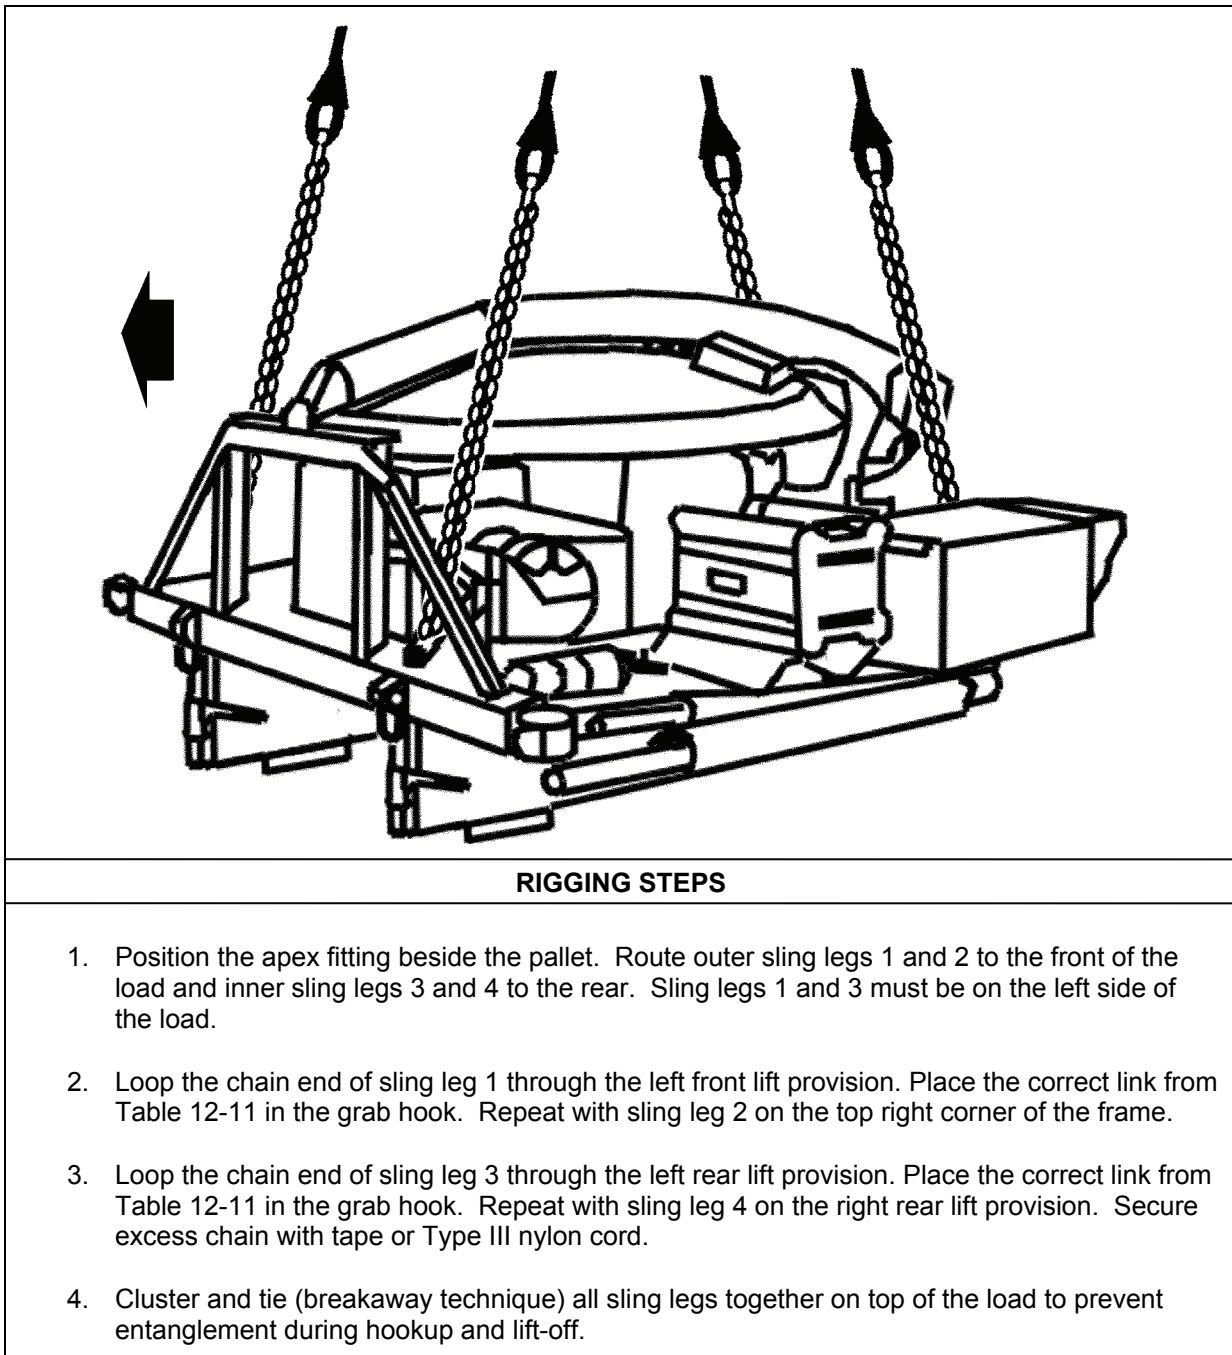

Figure 12-11. Secure Mobile Anti-Jam Reliable Tactical Terminal Pallet
- **Rigging.** Rig the load according to the steps in Figure 12-11.